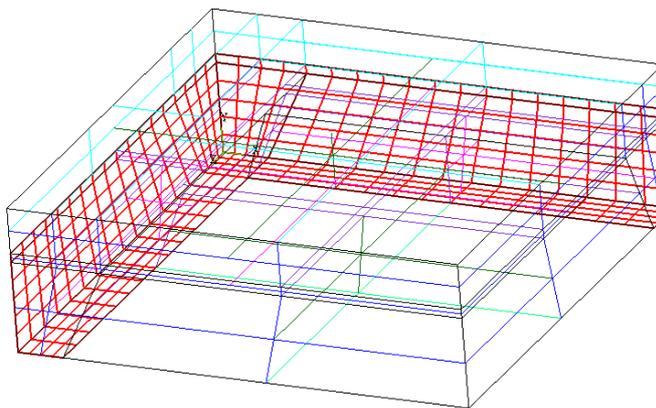
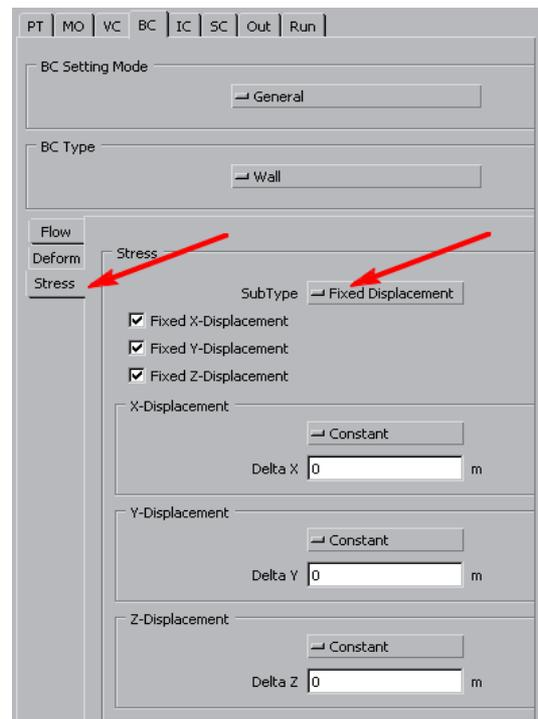

Fig.47. The view of the model – the bottom and side planes of the borders selected
Fig.48. The BC settings for selected border's planes
5.5.3 Group bottom and side surfaces of the rim, on which the membrane is suspended (Fig. 47). In the *Stress* sub-tab choose the *Fixed Displacement* subtype and set zero displacements (see Fig. 48). This is an essential condition, without which the simulations are not convergent.